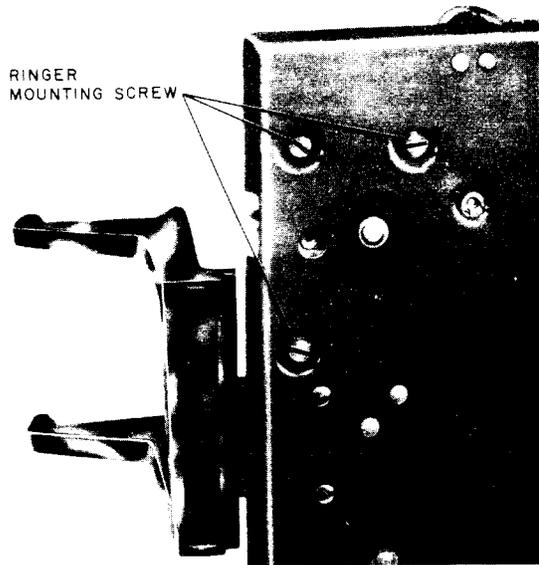
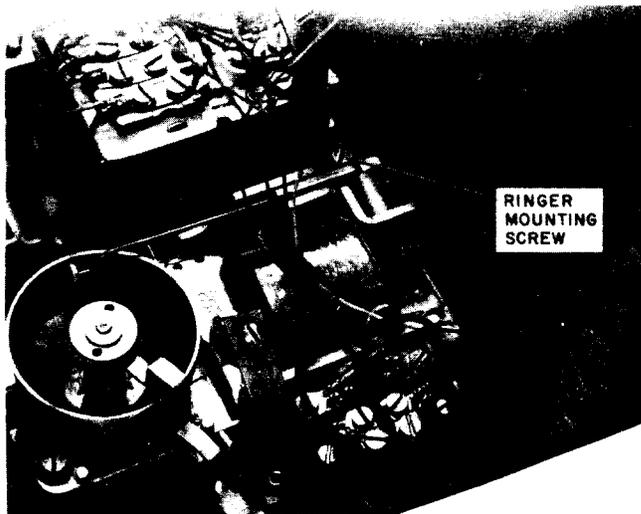

Fig. 27—Location of Mounting Screws for N1A or T1A Ringers
Fig. 28—Location of Mounting Screws for D1-Type Ringers
- (1) Remove housing.
- (2) Loosen dial mounting plate and move to left.
- (3) Disconnect ringer leads.
- (4) Remove N1A or T1A ringer mounting screws from underside of baseplate (Fig. 27) or loosen captive screws of D1-type ringers (Fig. 28).
- (5) Lift out ringer.